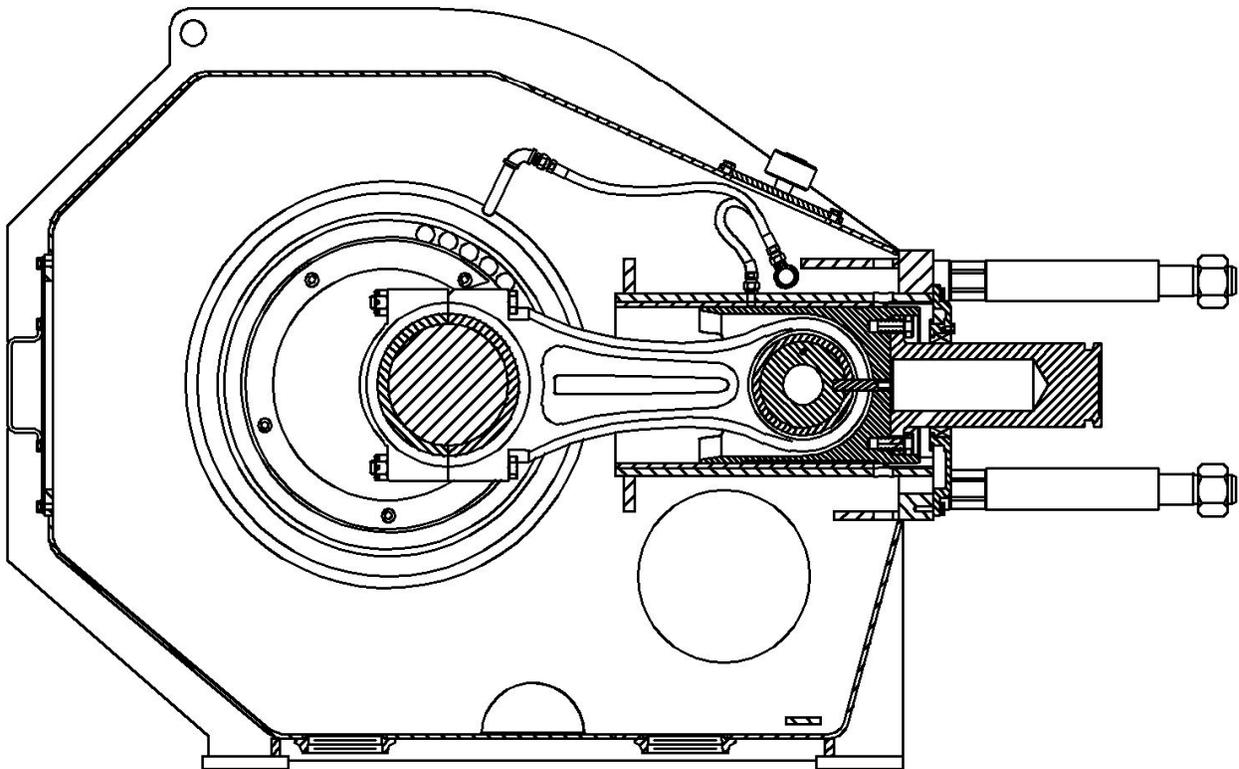
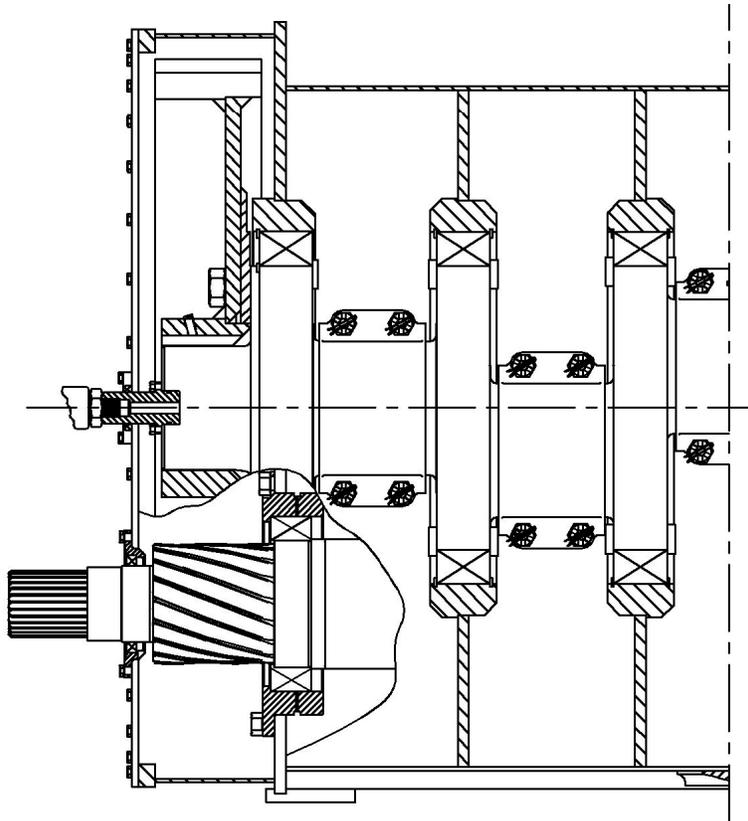
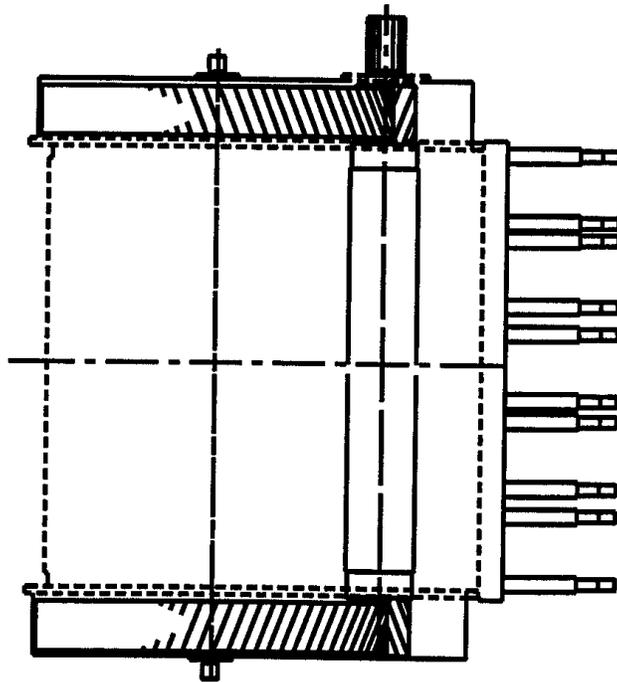

FIGURE 2-2 GD-2500Q Power End Section View
FIGURE 2-3: GD-2500Q Power End Rear Section View
FIGURE 2-4: GD-2500Q Gear Reduction Components
### POWER END (FIGURE 2-2, FIGURE 2-3)
### GEAR REDUCTION COMPONENTS (FIGURE 2-4)
**POWER END AND GEAR REDUCTION COMPONENTS LUBE SYSTEM (FIGURE 2-2, FIGURE 2-3, and FIGURE 2-4.)**